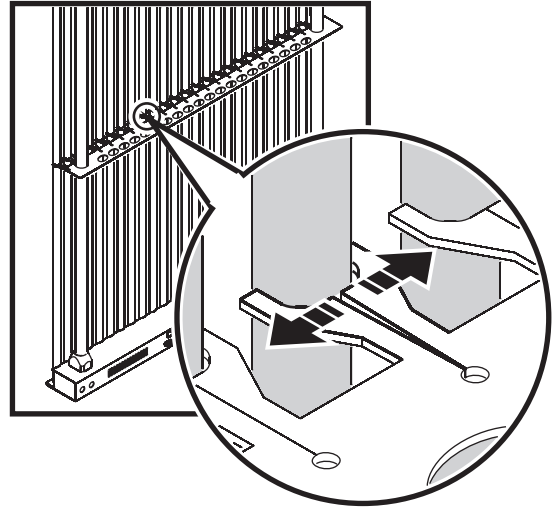

Figure 20: Releasing an LED tube
2. See Figure 20. Insert a broad flat-blade screwdriver into the slot in each of the clear plastic brackets immediately behind the tube you want to remove. Twist the screwdriver very slightly to release the tube in the slot so that it can be pulled forward out of the bracket.